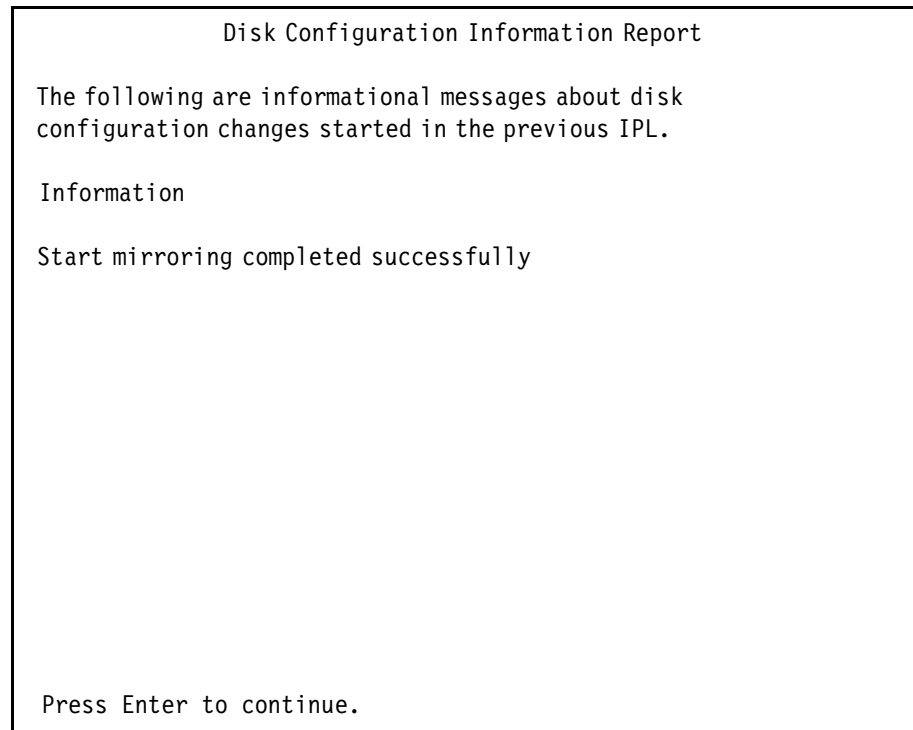

Figure 16-56 IBM i Disk configuration information report
14. Confirming to start mirrored protection causes the IBM i partition to automatically restart to activate the configuration change as shown in Figure 16-56.